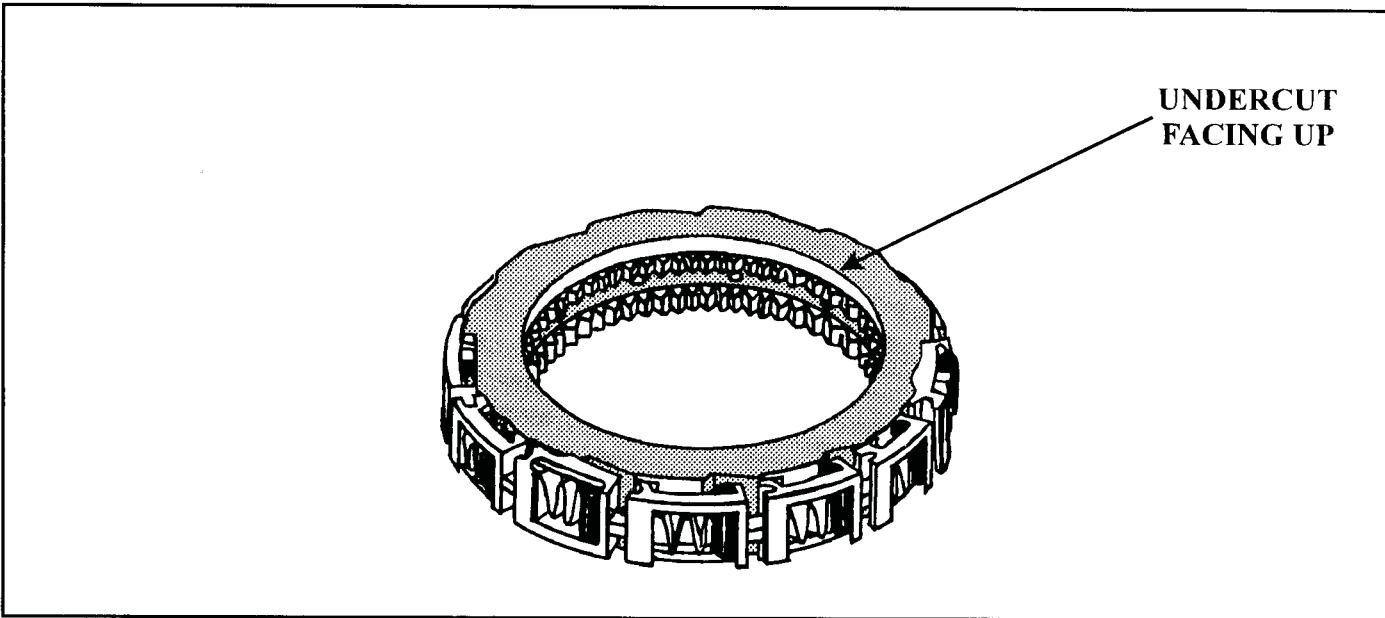

Figure 39
- (3) Push the overdrive roller clutch assembly all the way down, as shown in Figure 39.